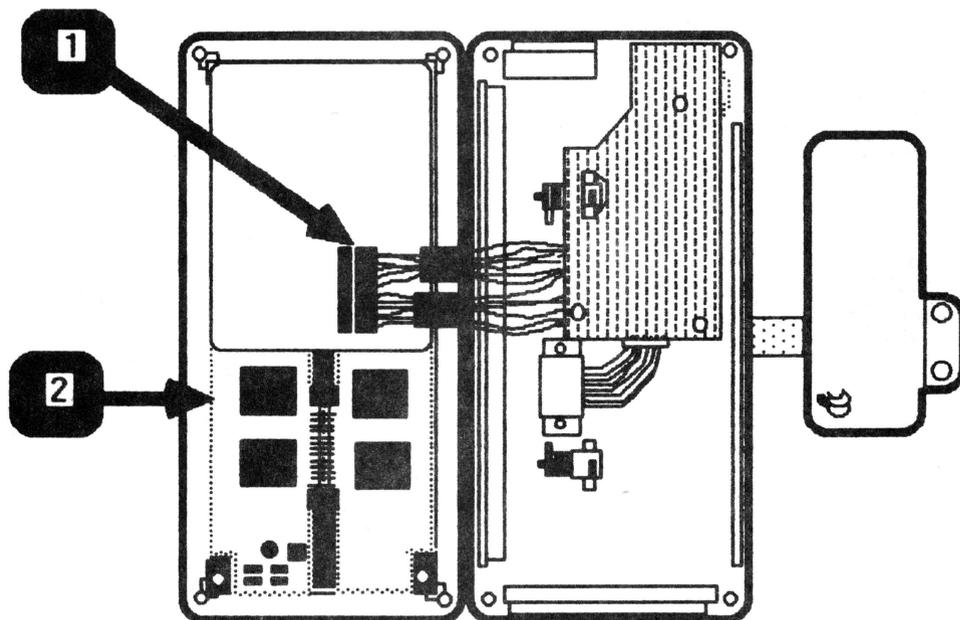

FIGURE 3
5. Turn the top half of the panel over in the same way you would open a book. (See Figure 3).
2. Disconnect the contrast card connector (Figure 3, #1) from the LCD (Figure 3, #2).
3. Carefully pry the flat panel LCD (Figure 3, #2) out of the case.